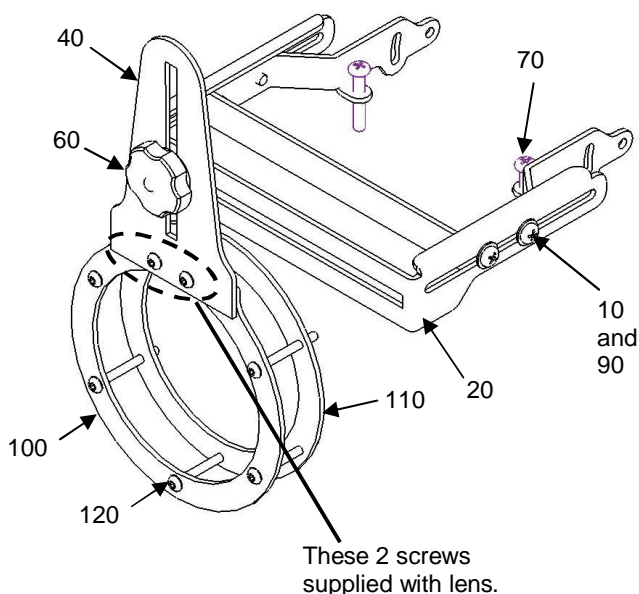
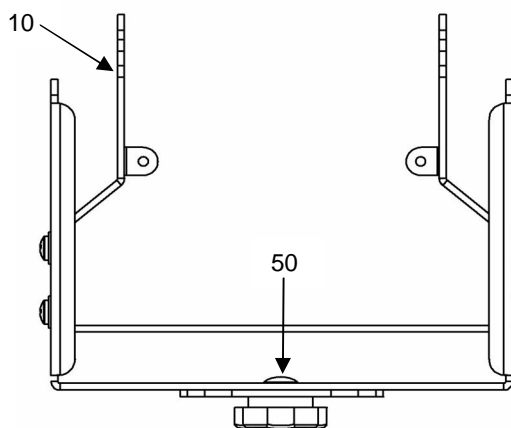

Figure 11. NAV-2 Lens Support
Figure 12. NAV-2 Lens Support (Top View)
3. Carefully inspect all components for damage. See Table 4, Figure 11, and Figure 12.